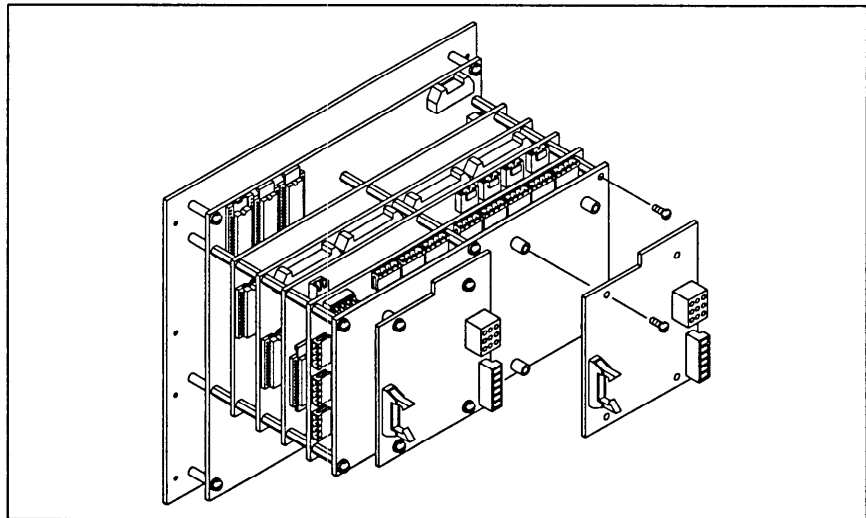

Figure 5. Removing the right motor control interface board
1. The outermost circuit boards (mounted side-by-side on a metal plate) are the motor control interface boards. One of these boards must first be removed from the mounting plate to expose two of the mounting plate corner screws. Refer to Figure 5 and remove the right motor control interface board that covers these screws.